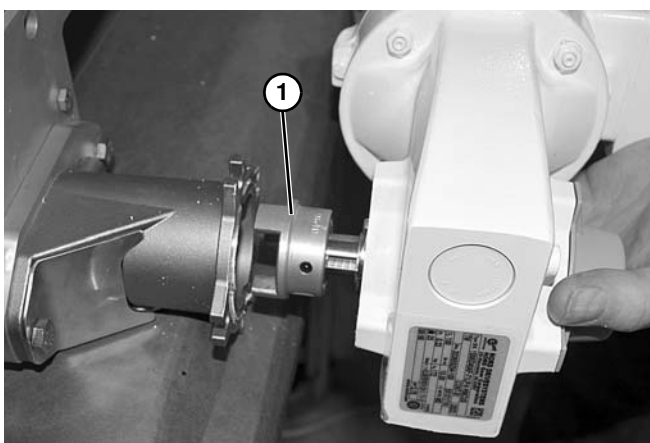

Figure 22
5. Install motor with 3 jaw coupling (Figure 22, item 1) onto shaft, making sure the couplings are engaged.